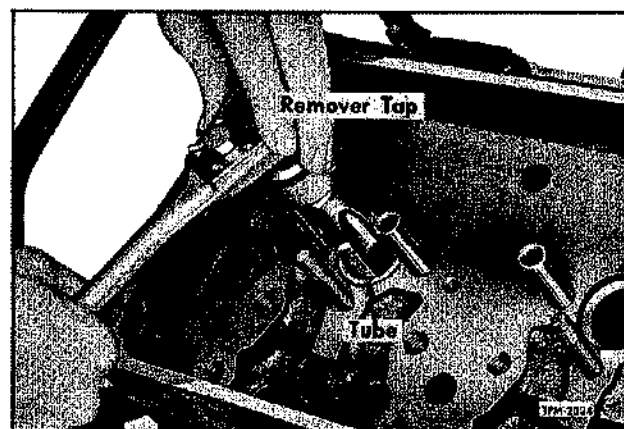

Figure 76—Removing Injector Copper Tube from Cylinder Head (Operation No. 1)
2. Apply a small amount of light engine oil to inside of copper tube, then thread tap into copper tube until approximately $\frac{1}{2}$ " of threads are obtained. Refer to figure 76.